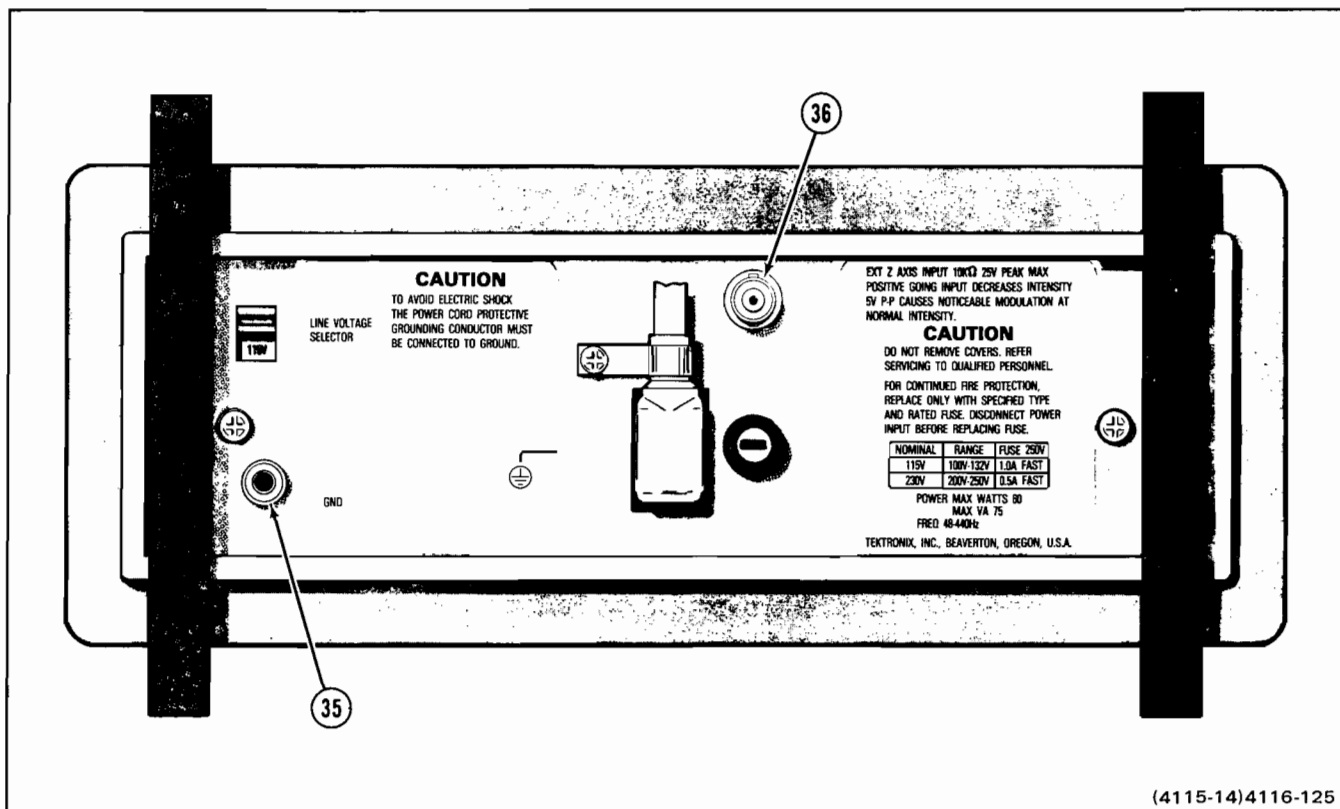

Figure 2-7. Rear-panel connectors.
Refer to Figure 2-7 for location of items 35 through 36.
- ⑤ **GND Connector**—Provides direct connection to instrument chassis ground.
- ⑥ **EXT Z AXIS INPUT Connector**—Provides a means of connecting external signals to the Z-Axis amplifier to intensity modulate the crt display. Applied signals do not affect display waveshape. Signals with fast rise time and fall time provide the most abrupt intensity change. Positive-going signals decrease the intensity, and a 5-V p-p signal will produce noticeable modulation. Z-axis signals must be time-related to the display to obtain a stable presentation on the crt.